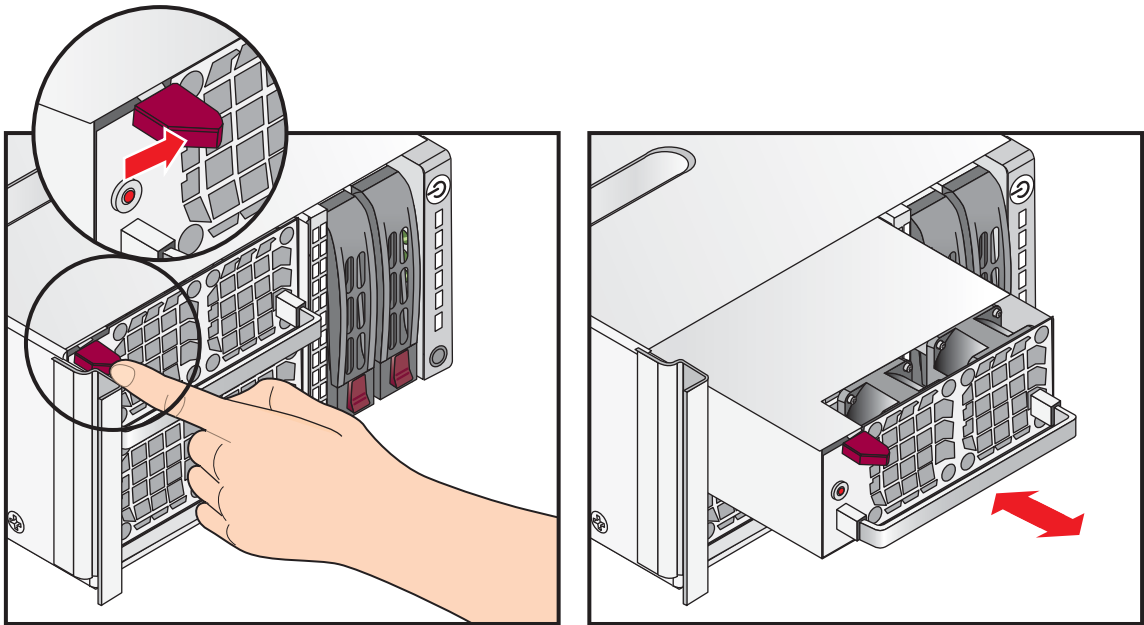

Figure 3-8 Power Supply Removal
2. Move the power supply latch to release the power supply (refer to Figure 3-8).